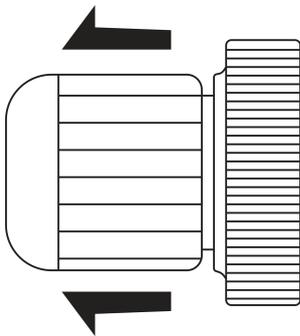
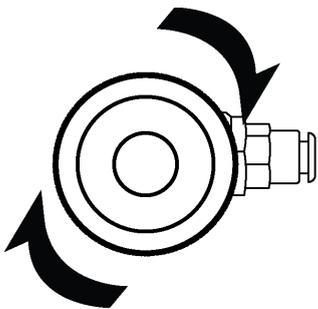

Fig 1. Water Pressure Regulator
Fig 2. Increase Pressure
- To adjust the water pressure regulator, pull the knob outwards (**Fig 1**). You should feel and hear a click as it comes out. Twist it clockwise (to increase the pressure) or anti-clockwise (to decrease the pressure), depending on what needs to be done (**Fig 2 & 3**).